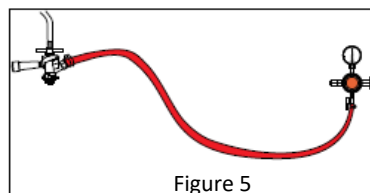

Figure 5
- b) Connect the ends of the red CO₂ tube respectively to the CO₂ intake port of the mixed ball valve and the round outlet of the CO₂ regulator valve. Lock these connections firmly with the two clamps on the red CO₂ tube (See Figure 5).